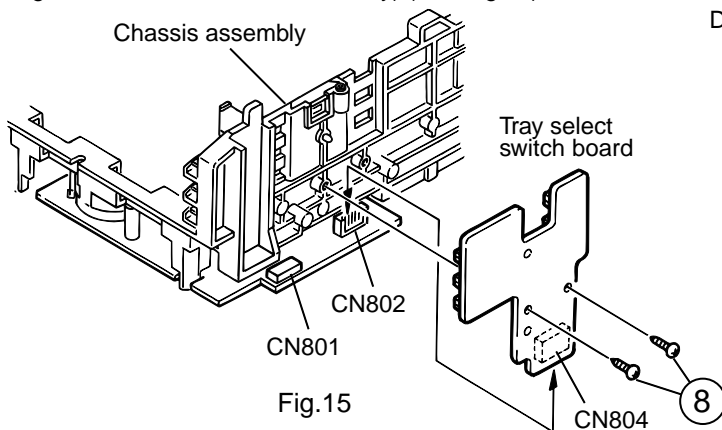

Fig.15
3. Remove the two screws 8 retaining the tray select switch board (See Fig.15).
■ Removing the cam unit (See Fig.15~18)
2. While turning the cam gear L, align the pawl "N" position of the drive unit to the notch position (Fig.15) on the cam gear L.